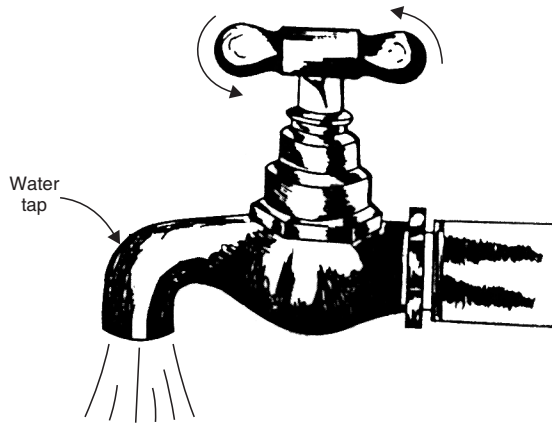

Fig. 3.13
1. Opening or closing a water tap. The two forces constitute a couple as shown in Fig. 3.13.